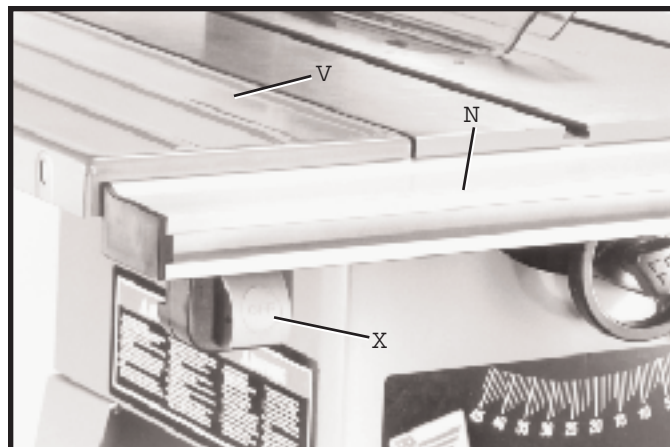

Fig. 33
20. The ON/OFF switch (X) Fig. 33, for the Delta Series 2000 10 Contractor s Saw is mounted to the left extension wing (V) as shown.
21. Fasten the ON/OFF switch (X) Figs. 33 and 34, to guide rail (N) using 1/4-20 x 1 long screw and flat washer (S). Do not completely tighten screw at this time.